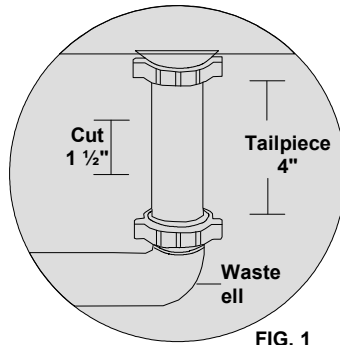
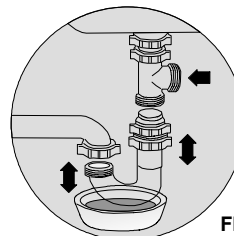

FIG. 1
FIG. 6
1. Measure the midpoint on the vertical tailpiece between the basket strainer and the horizontal waste extension. A minimum of 4" of uninterrupted tubing is required. (See Fig. 1)
2. Cut out 1-1/2-inch of tubing (3/4-inch on both sides of the midpoint). (See Fig. 1) Always ensure that tube ends are cut squarely and inserted into the bottom of all slip joint sockets.
NOTE: To install the ET112-002 to a single compartment sink without disposal, follow instructions 1-7 above with the following exception: Once you have removed 1 1/2" of the tubing from the center of the tailpiece (Fig. 1), disconnect and lower the J-bend of the trap. Insert the 3-way repair tee, then reconnect the trap. Use a bowl to catch trap water. (See Fig. 6)